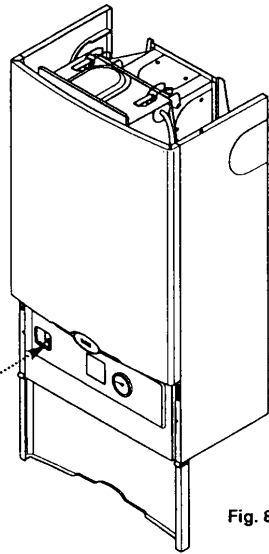

Fig. 89
2. Hinge the lower door panel down (Fig 89).